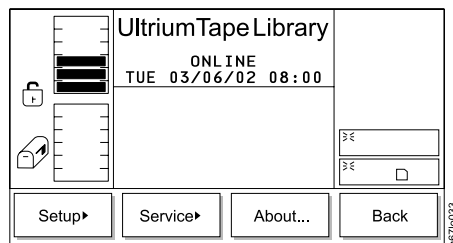

Figure 240. Main Menu (alternate screen)
1. From the Main Menu’s initial screen, press the button below the **More** softkey. The Main Menu’s alternate screen displays (see Figure 240).